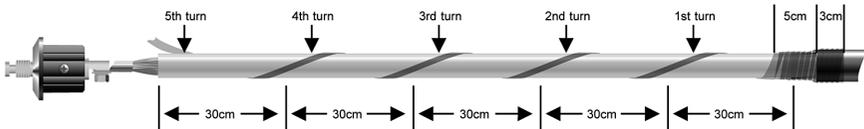

Figure 30.
- Using the 30cm markings as a guide, continue to wrap the tape around the White XLPE Insulation in a coarse spiral, (5 Turns from the outer-Copper screen wires to crimp), with only slight tension, ensuring that the tape is not too loose. Note: The spiral needs to be applied with even pitch to achieve best performance. (Figure 30)